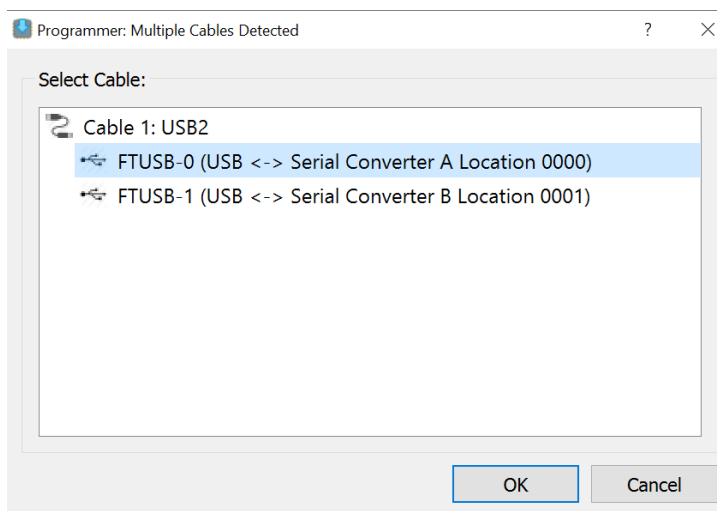

Figure 4.12. Selecting Cable
4. In the **Select Cable** window, select the **FTUSB-0** option as shown in Figure 4.12 and click **OK**.